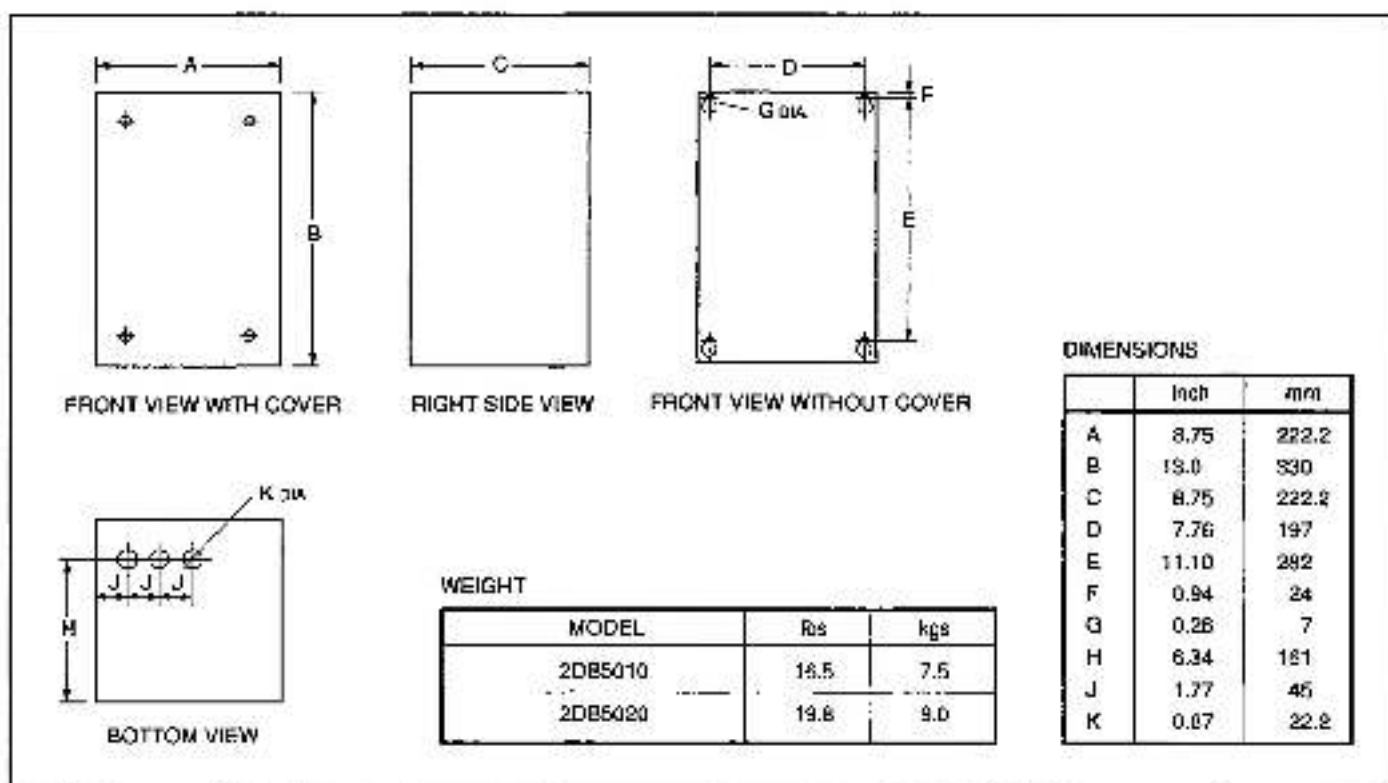

Figure 1. Mounting Data for Dynamic Braking Kit.
4. Mount the unit vertically. Mounting hardware is not supplied. Refer to Figure 1 for physical size and mounting dimensions.